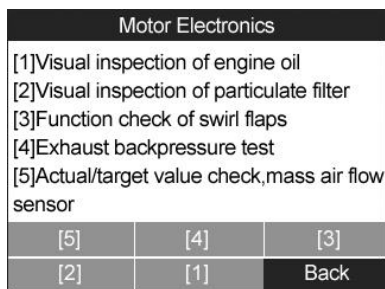

Figure 14.29
- a) From the particle filter test menu (Figure 14.29) use the **LEFT/RIGHT** scroll button to select **1** and press the **OK** button.
- a) From the particle filter test menu (Figure 14.29) use the **LEFT/RIGHT** scroll button to select **[2]** and press the **OK** button.
- a) From the particle filter test menu (Figure 14.29) use the **LEFT/RIGHT** scroll button to select **[3]** and press the **OK** button.
- a) From the particle filter test menu (Figure 14.29) use the **LEFT/RIGHT** scroll button to select **[4]** and press the **OK** button.
- a) From the particle filter test menu (Figure 14.29) use the **LEFT/RIGHT** scroll button to select **【5】** and press the **OK** button.